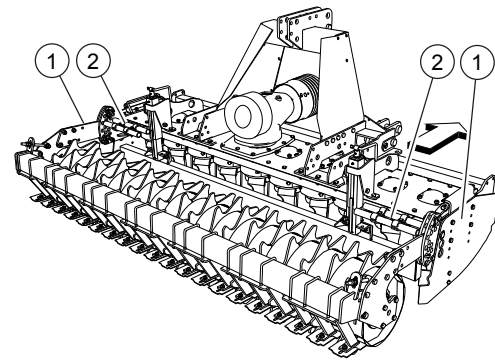

FIG. 17
- Protective side shield (1, “Fig. 17”).
- Protective tubes against access to the blades area (2, “Fig. 17”).